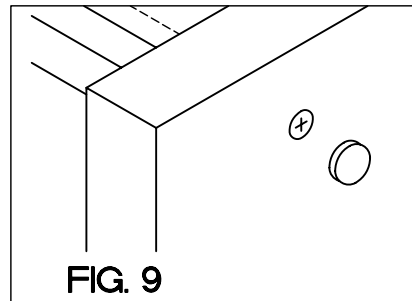

FIG. 9
LIFT DISPLAY CASE BACK UPRIGHT MAKING SURE THAT THE AC OUTLET CORD IS LOCATED TO PLUG INTO DESIRE OUTLET. TIGHTEN THE (2) TWO SCREWS IN END PANELS TO LIGHT RAIL, SELECT A MATCHING STICK-ON STICKER THAT MATCHES DISPLAY CASE AND PLACE OVER SCREW HEAD. (SEE FIG. 9) PLUG AC CORD INTO OUTLET.